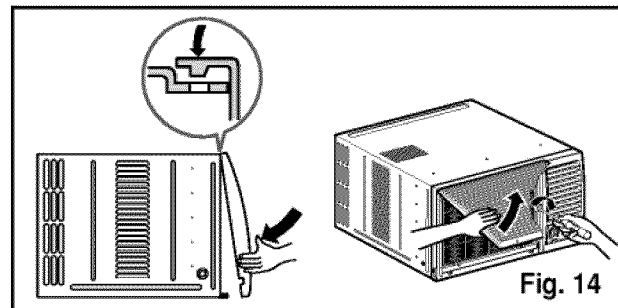

Fig. 14
10. Attach the front grille to the cabinet by inserting the tabs on the grille into the tabs on the front of the cabinet. Push the grille in until it snaps into place.(See Fig.14)
11. Lift the inlet grille and secure it with a screw (Type A) through the front grille.(See Fig. 14)